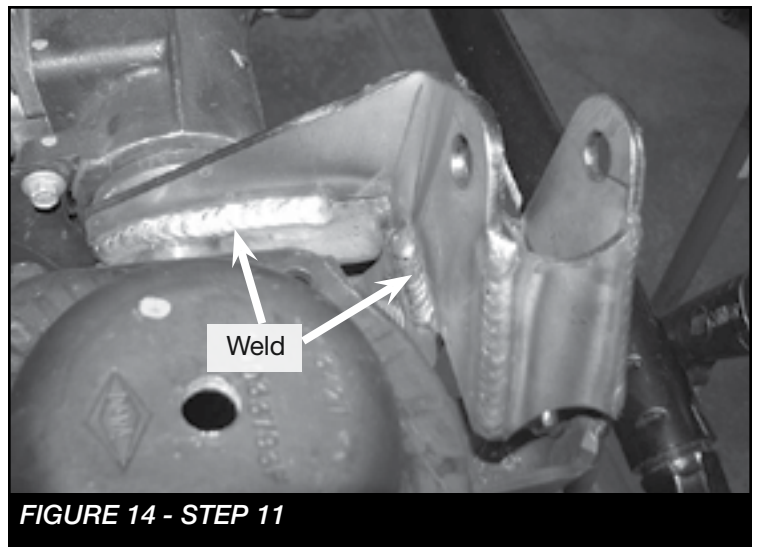

FIGURE 14 - STEP 11
14. On the factory coil spring perch. Use a drill with a 1/2" drill bit and drill out the existing factory hole on both driver & passenger sides. **SEE FIGURE 14**